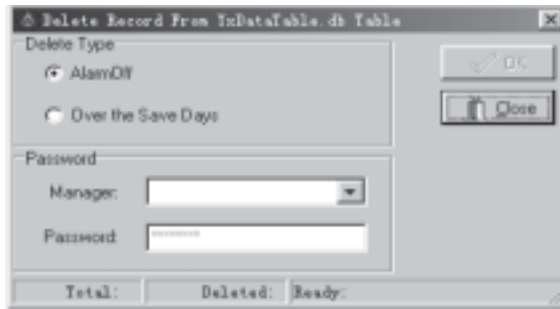

Fig. 7-6 Records Deleting Dialogue Block
(3) Delete the Records of Alarm Off or Over the Save Days: Click the button Delete , and the dialogue block as in Fig. 7-6 will be displayed in the interface.